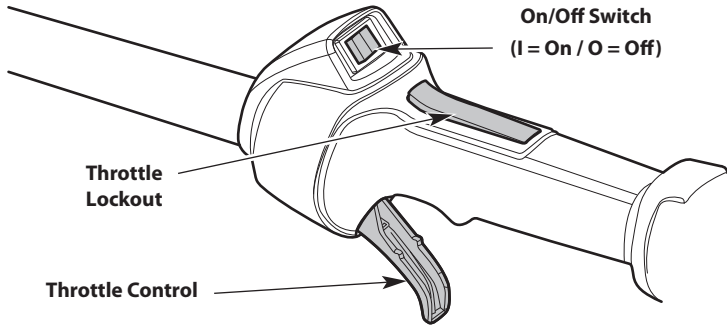

Fig. 10
**NOTE:** There is no need to turn the unit on. The On/Off switch is in the **On (I)** position at all times (Fig. 10).
4. Press and hold the throttle lockout. Squeeze and hold the throttle control (Fig. 10).
2. Press and hold the On/Off switch in the **Off (O)** position until the engine comes to a complete stop (Fig. 10).